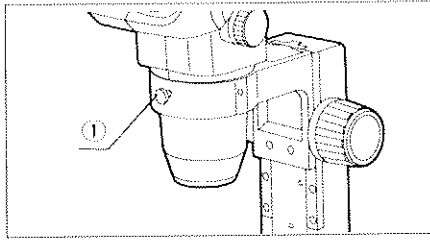

Fig. 4
- (1) Loosen the clamping screw ① and insert the microscope body. The clamping screw ① can be positioned at any of the three holes on the circumference of the arm. It should be attached so that it does not interfere with the illuminator. (Fig. 4)
- (2) Securely tighten the clamping screw ①.